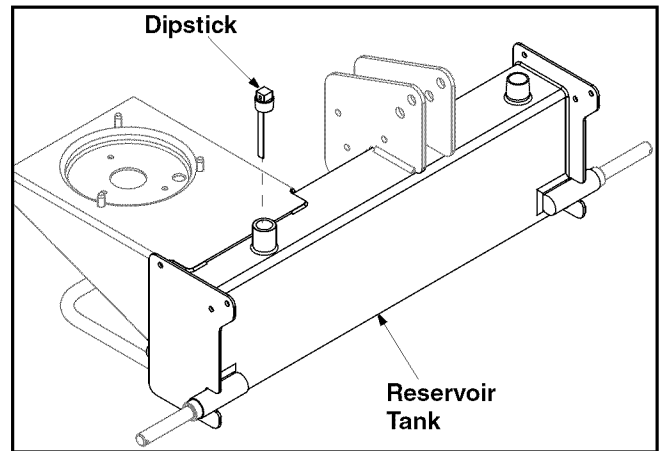

Figure 6
- Remove vented reservoir dipstick or pipe plug, as the case may be, located in front of the engine on top of the reservoir tank. See Figure 6.
- Check fluid level using the dipstick or a ruler. See Figure 6. Do not overfill. Replace vented dipstick or the pipe plug tightening it until the top of the threads are flush with top of the pipe.